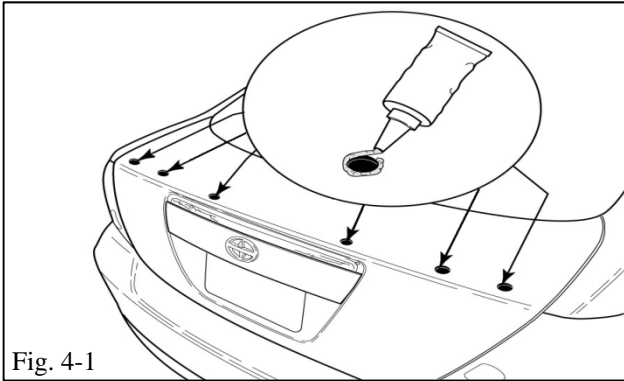

Fig. 4-1
(c) After cleaning, carefully apply 3M Ultra-Pro Body Sealant to all six (6) drilled hole edges (Fig. 4-1).